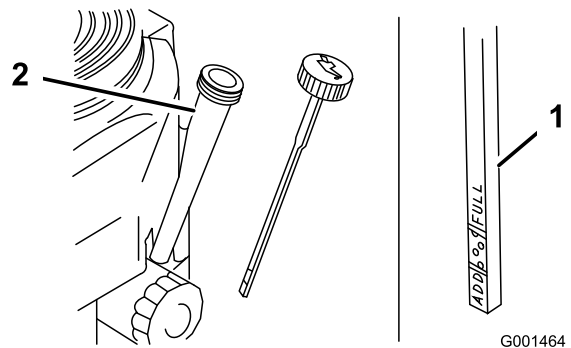

Figure 26
- Clean around the oil dipstick (Figure 26) so that dirt cannot fall into the filler hole and damage the engine.
- Unscrew the oil dipstick and wipe the end clean (Figure 26).
- Slide the oil dipstick fully into the filler tube, but do not thread onto tube (Figure 26).
9. Slowly pour approximately 80% of the specified oil into the filler tube (Figure 26).